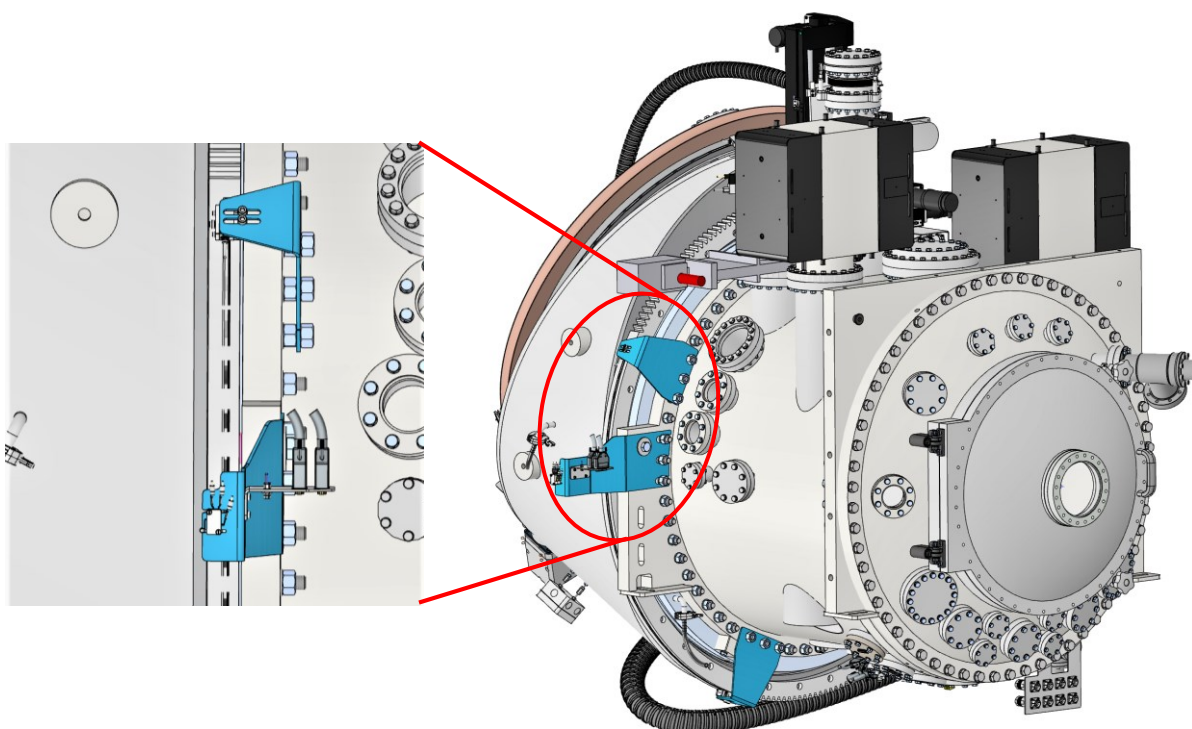
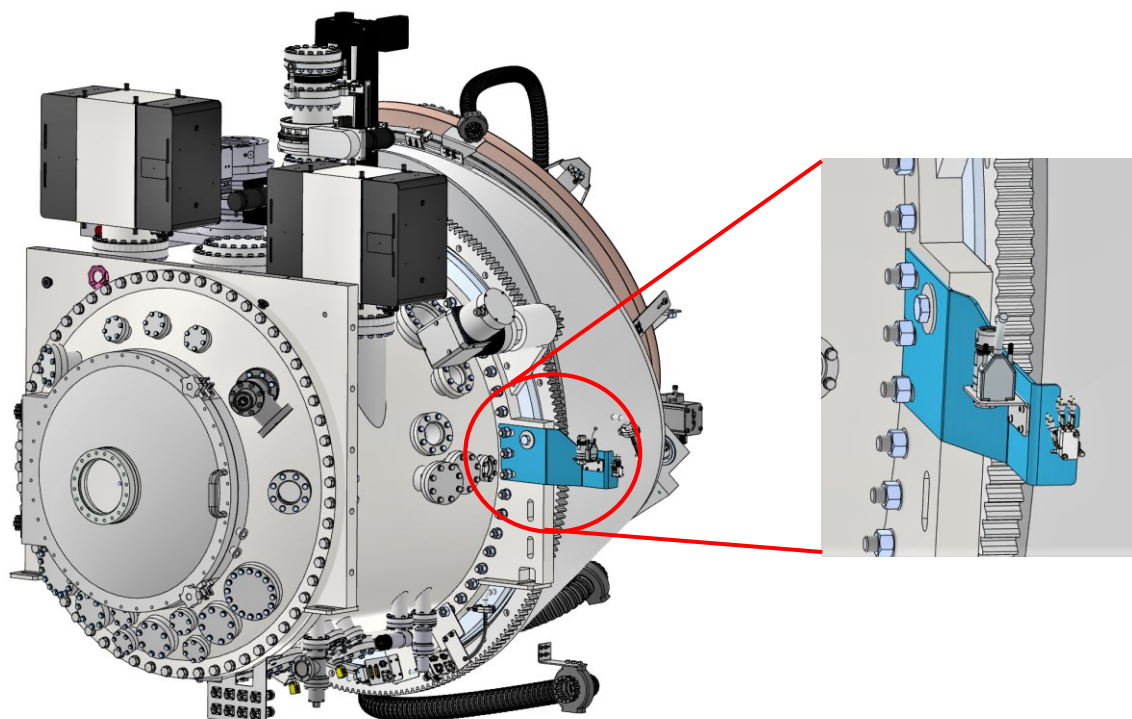
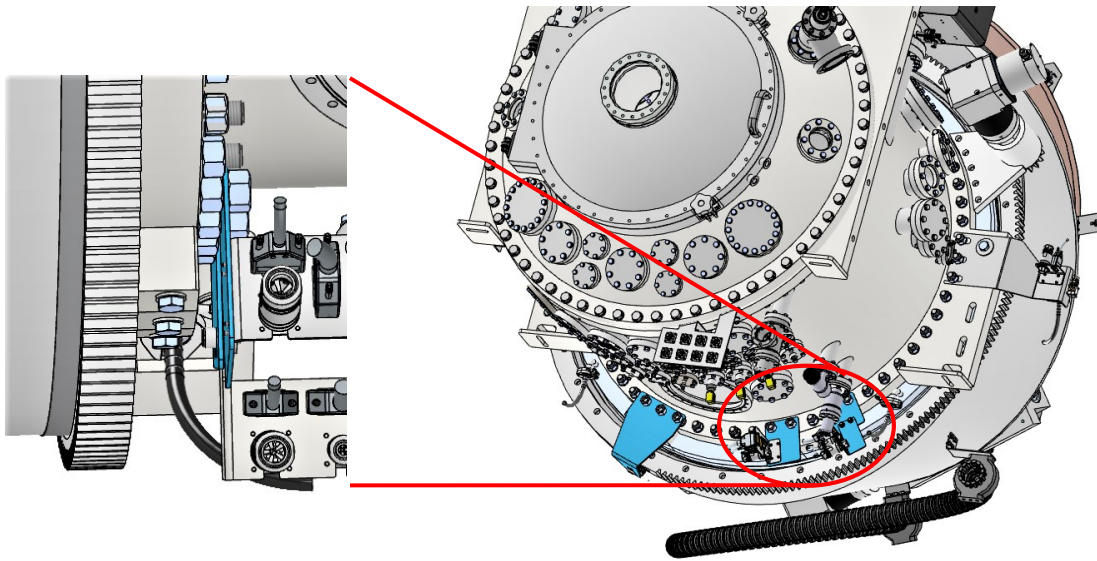

Figure 27: Angle brackets at the sample chamber
Figure 28: Figure 29: Angle brackets at the sample chamber
Figure 30: Figure 31: Angle brackets at the sample chamber
15. Figure 27, Figure 28 and Figure 30 show the position of the angle brackets (see step #9 in the description above) holding encoder cables, limit switches, etc at the sample chamber. Note that for easier maintenance, some of the brackets are fixed below the nuts holding the TRF, some of them above.